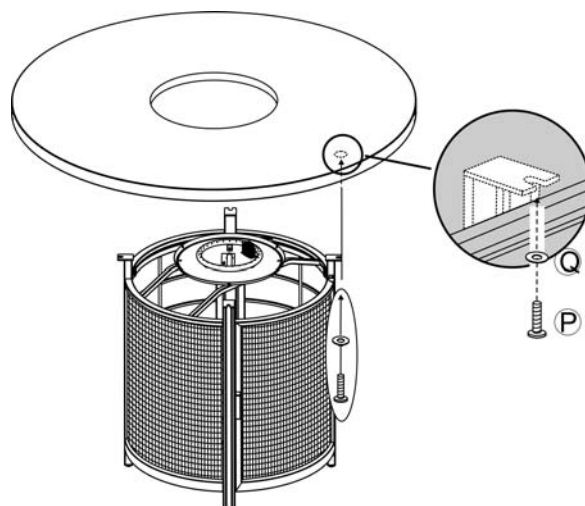

Figure 2
2. Place the firepit tabletop onto the firepit base. Secure the tabletop to the firepit base by using the 1/4 x 20 mm screws and washers that are provided. See Figure 2.